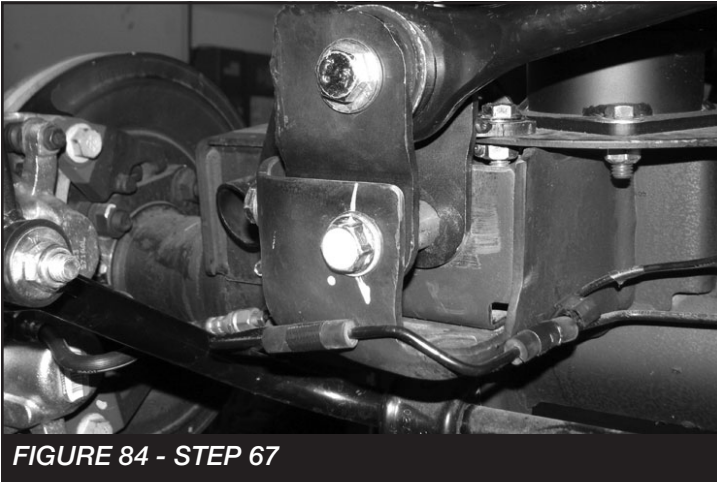

FIGURE 84 - STEP 67
67. Locate the supplied 9/16"-18 x 3-1/2" bolt, nut and washers and install the rear track bar into the new location. Torque to 184 ft-lbs. **SEE FIGURE 84**